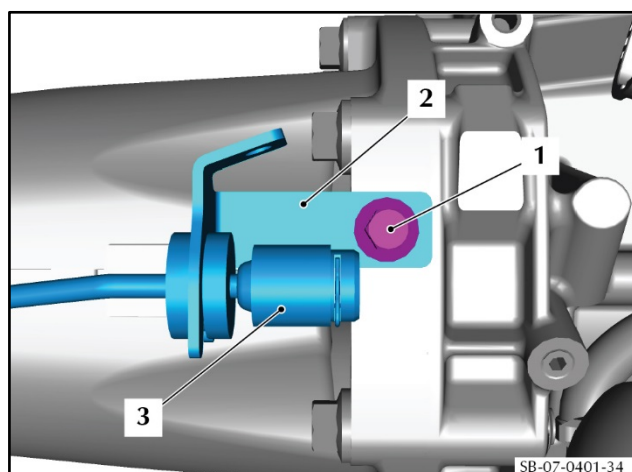

Figure 36
65. Remove the screw (1) that attaches the attachment bracket (2) for the tube assembly (3) to the torque tube (refer to Figure 36).